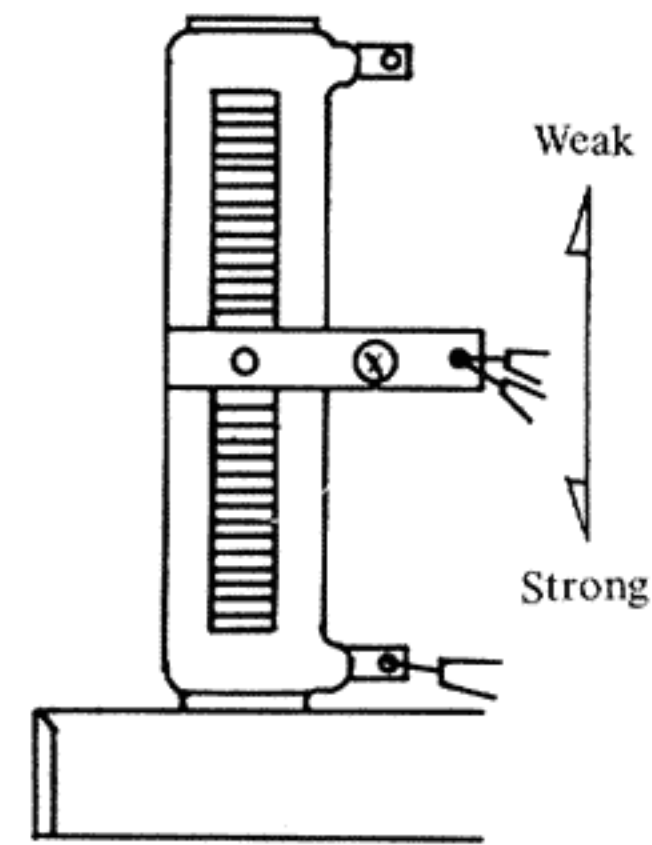

Fig. 27
3. **Reel motor torque adjustment and specifications (Fig. 27)**